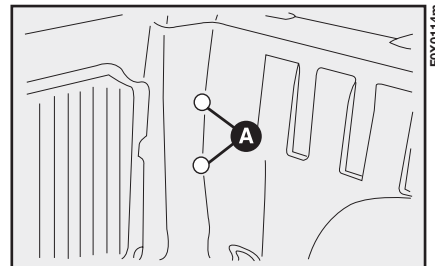

fig. 134
- from inside the load compartment, remove the caps A-fig. 134 to access the screws that fix the light unit;